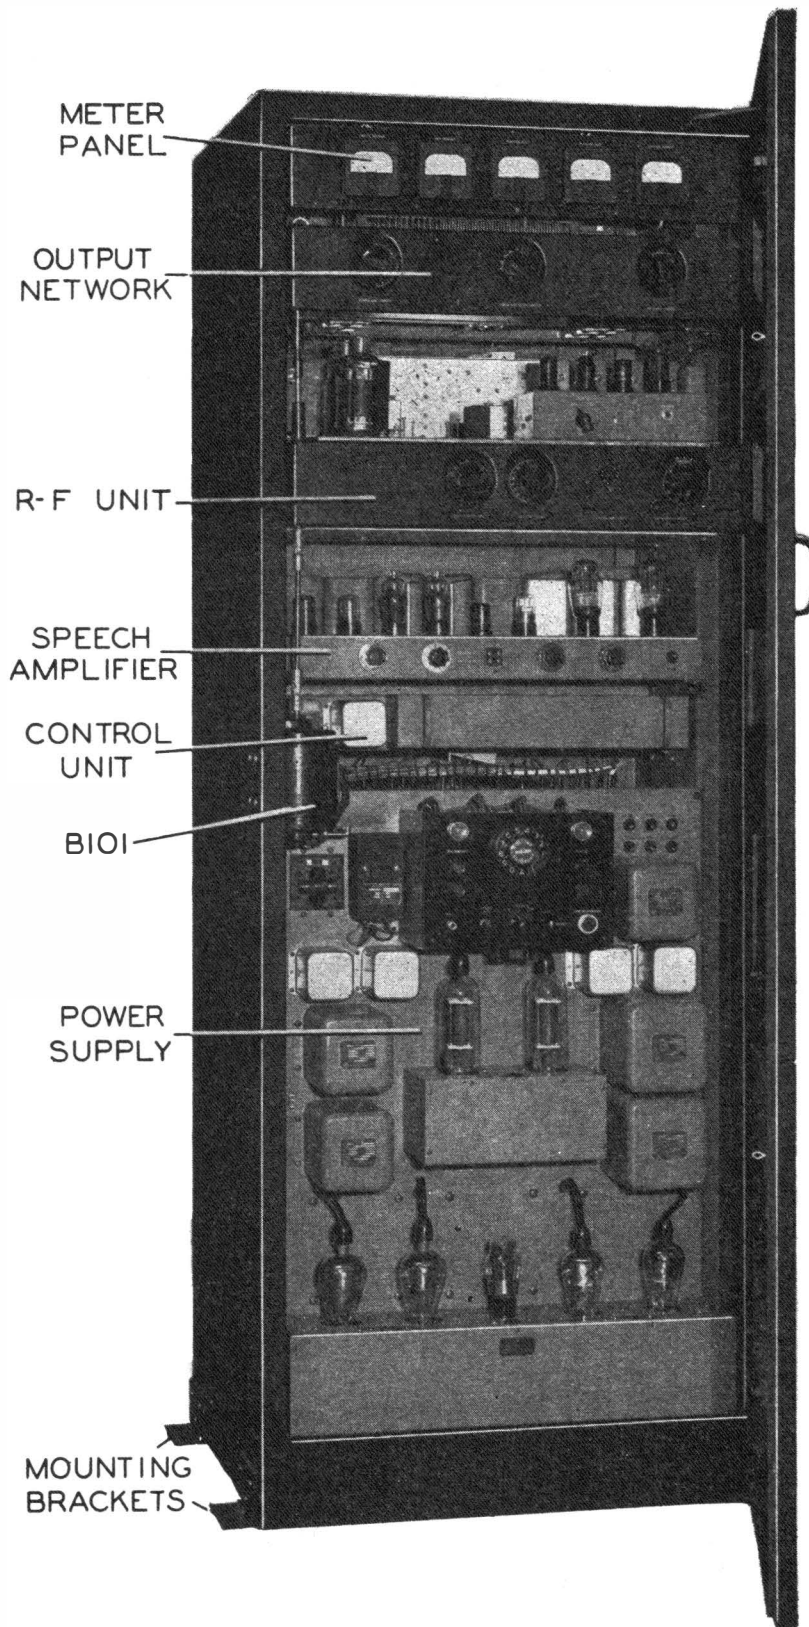

Fig. 12 Radio Transmitter (Front Open)
**3.3. INSTALLATION OF UNITS.** The unit assemblies making up the transmitter have been removed from the cabinet and packed separately for shipment. Figure 12 indicates the location of the units within the cabinet.